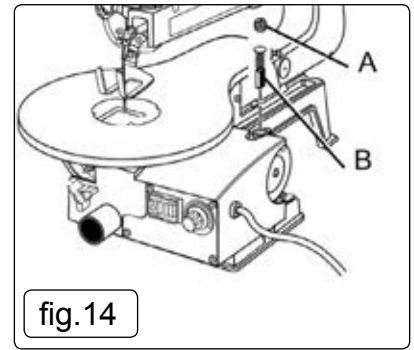

fig.14
- 7.3. **Carbon Brushes. fig.14**